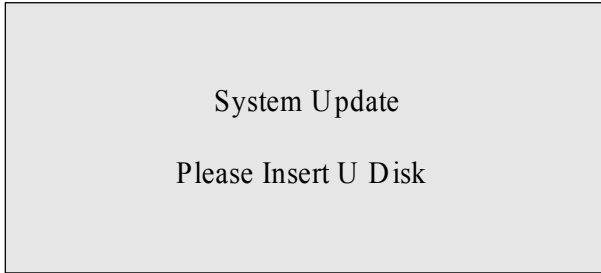

Figure G-1
1. Press the  key, simultaneously, Press the  key, and then the splicer return to the "Update status, the screen displays as shown in Figure G-1.